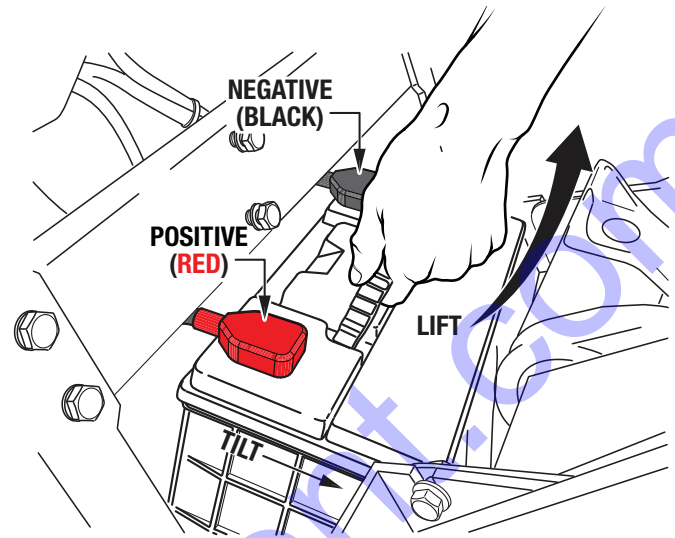

Figure 4. Battery Removal
5. Disconnect the negative (**BLACK**) battery cable, then disconnect the positive (**RED**) battery cable (Figure 4).
6. Tilt the battery backward and lift up on the handle to remove (Figure 4). **MAKE SURE** the battery terminals **DO NOT** touch the frame during removal.